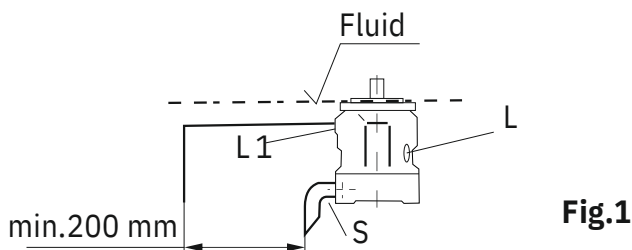
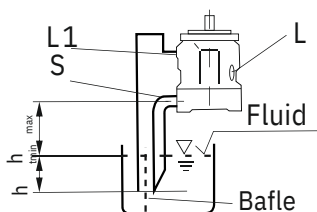

Fig.1
Fig.2
1.1. Arrangement in the reservoir Before installation all pump housing, keeping it in a horizontal position. a) If the minimum fluid level is equal to or above the pump mounting face close port "L" plugged, leave ports "L" and 1 "S" open; L piped and recommendation S piped (see Fig.1). 1 b) If the minimum fluid level is below the pump mounting face pipe port "L" and "S" according to Fig.2. 1 Close port "L" with respect taking into consideration conditions in 1.2.1.
1.2. Arrangement outside the reservoir Before installation all the pump housing, keeping it in a horizontal position. For mounting above reservoir see Fig.2.